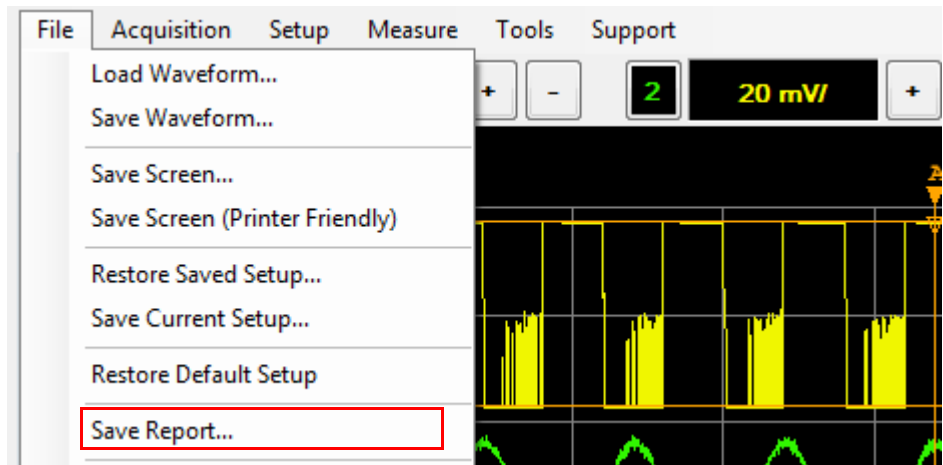

Figure 2-151 Save Report... selection in the File menu
- 1 Select **File > Save Report...** on the toolbar as shown in Figure 2-151.